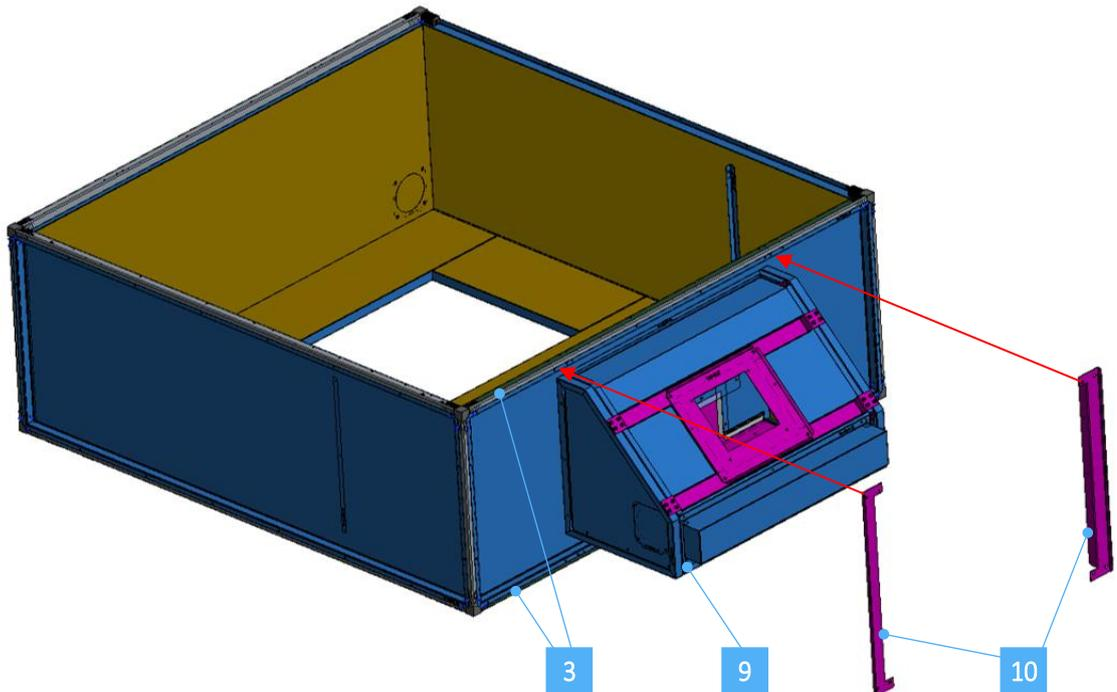

Fig. 9 Support bars assembly
- 6 Fix the support bars [10] (PN 73-00081-01) to the tubes [3] and to the light assembly [9] using the supplied M5 screws (figure 9), inside the lower face of the skeleton formed by the tubulars [1] and [2]. Fix it to the side tubes [2] and to the tubular [1] from the side of the panel [5] using the supplied screws.